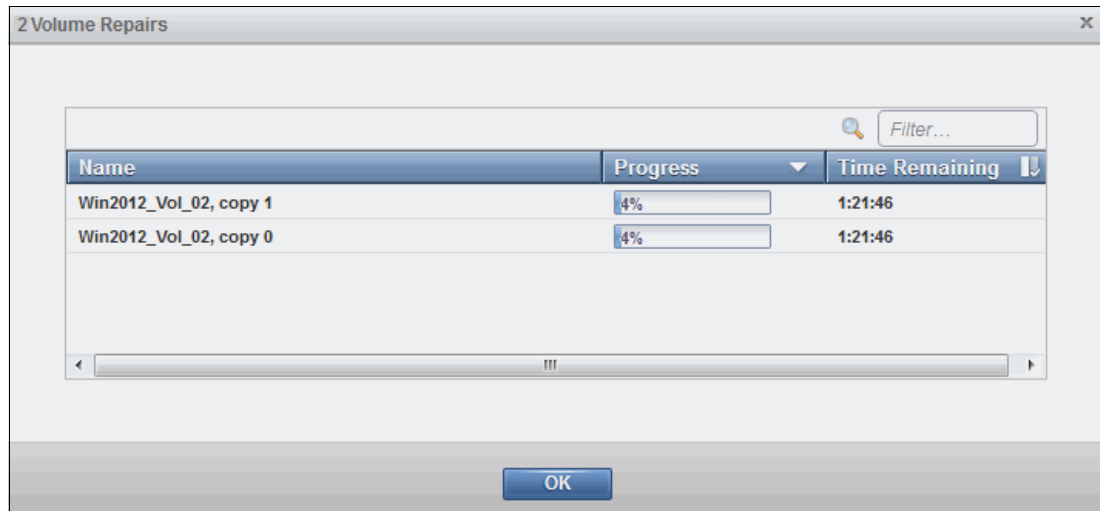

Figure 8-75 Validate Volume Copies: Running Tasks
3. You can check the status in the Running Tasks window, as shown in Figure 8-75.